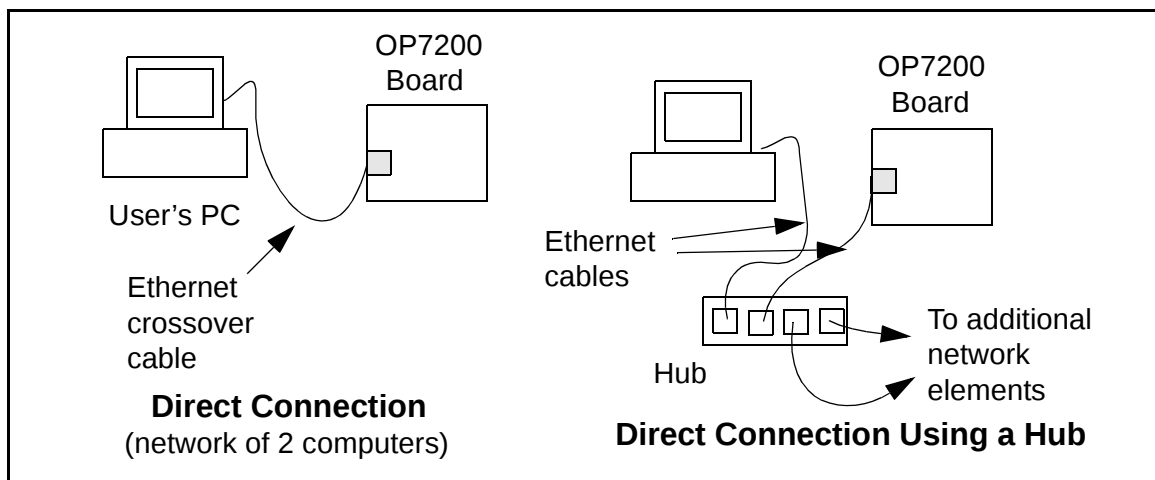

Figure 21. Ethernet Connections
- If you have an Ethernet connection, use a straight-through Ethernet cable to establish an Ethernet connection to the OP7200 from an Ethernet hub. These connections are shown in Figure 21.